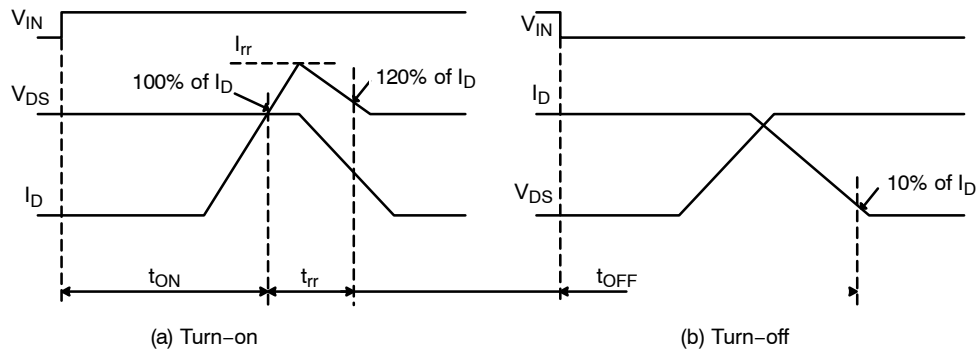
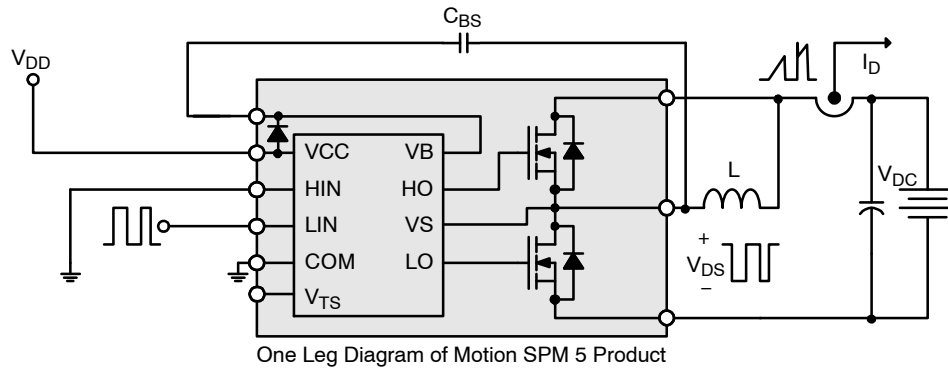

Figure 6. Switching Time Definitions
Figure 7. Switching and RBSOA (Single-Pulse) Test Circuit (Low-Side)
- t_{ON} and t_{OFF} include the propagation delay of the internal drive IC. Listed values are measured at the laboratory test condition, and they can be different according to the field applications due to the effect of different printed circuit boards and wirings. Please see Figure 6 for the switching time definition with the switching test circuit of Figure 7.
- The peak current and voltage of each MOSFET during the switching operation should be included in the Safe Operating Area (SOA). Please see Figure 7 for the RBSOA test circuit that is same as the switching test circuit.